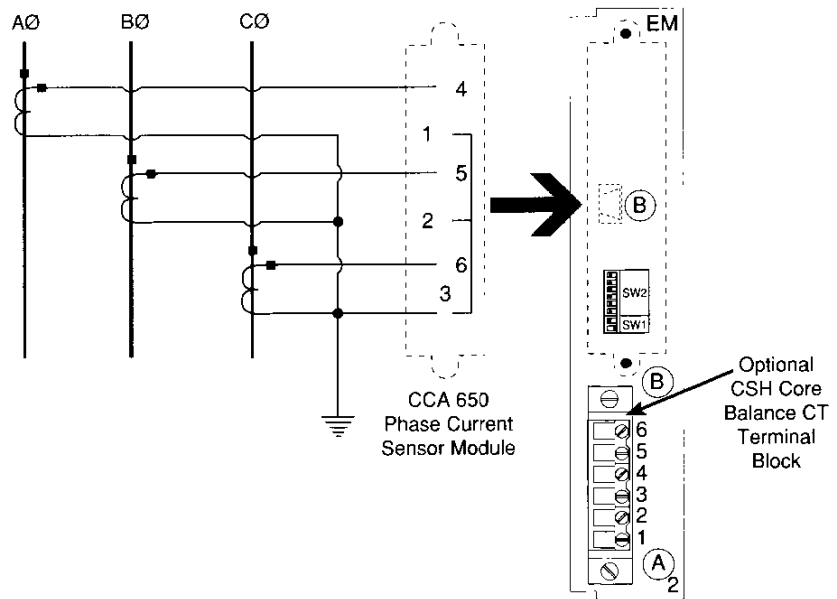

Figure 24: CCA 650 wiring example (for 5 A CTs with internal summation for ground fault)
Figure 24 below illustrates wiring connections for card 2 of the digital relay. (In the example shown, the DIP switches are set for 5 A CTs and internal summation for ground fault.) Card 2 wiring requires that the CTs be wired to the CCA 650 phase current sensor module, which then plugs into the DB-9 male connector on terminal B, card 2. Phase current sensor module wiring is explained in more detail below.
The current transformer (1 A or 5 A) secondary leads connect to the CCA 650 phase current sensor module, which plugs into card 2 (figure 24). This connector contains three core balance CT primary crossing adapters to ensure impedance matching and isolation between the 1 A or 5 A circuits and the digital relay.
4. Using the phase current sensor module, connect the phases as follows (figure 24 and 25):